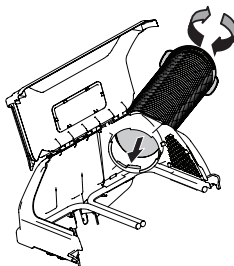

Figure 16
1. Thread the upper end of the hose securely into the upper chute support. There are two tabs on the lower inside part of the upper chute support to allow for secure threading. See Figure 16.